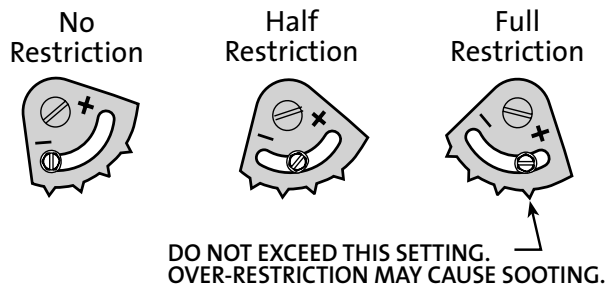
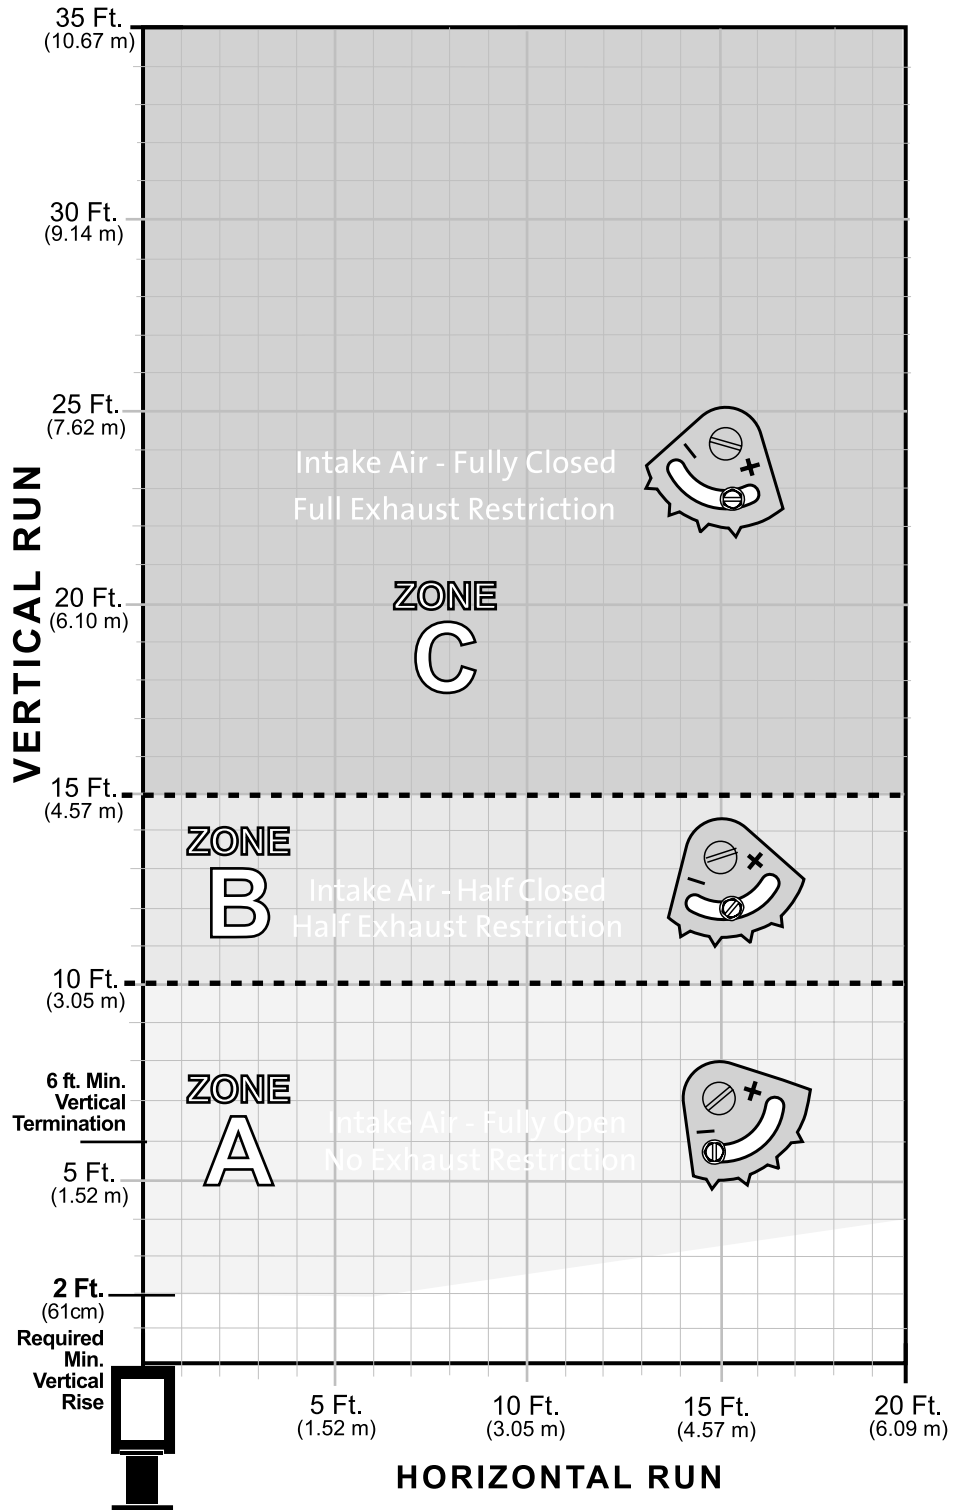

Figure 6.11. Exhaust Restrictor settings
Figure 6.13. Vent Termination Diagram.
Use the Vent Termination Diagram, fig. 6.13, to determine which zone your vent termination falls within and make the appropriate exhaust and air intake setting adjustments. Use these settings as general guidelines to start from. The final settings will ultimately be determined by the individual characteristics of your particular installation.
2. Loosen the locking screw and turn the restrictor pivot plate to the appropriate indicator point as specified in the vent window diagram, figure 6.13. After the burner has been operating for 15 minutes, make any further adjustment in 1/8" increments until the desired flame picture is achieved. **Do not exceed the fully closed setting as shown in fig. 6.11.** Operate the burner for 10-15 minutes between additional adjustments.